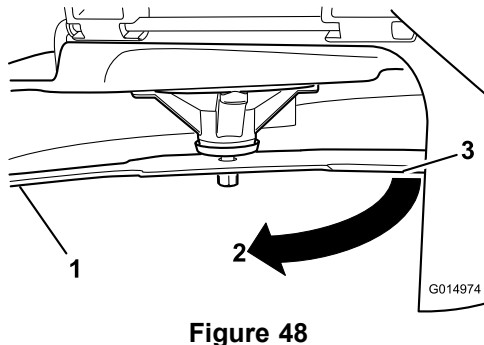

Figure 48
3. Measured distance between blade and the surface (A)
4. Rotate the same blade 180 degrees, so that the opposing cutting edge is now in the same position (Figure 48).